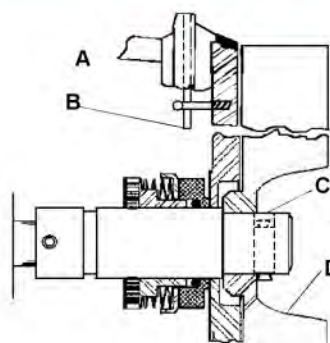

Figure 23 - Backplate Installation
5.7 Place the casing over the impeller/ backplate, close and tighten the clamp. See Figure 23.